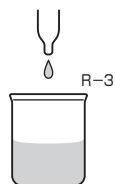

Fig.3
3. Stop the heating and add one drop of R-3 reagent to be disappeared the reddish purple color. If the color does not disappear, add one more drop of R-3 reagent. (Fig.3)